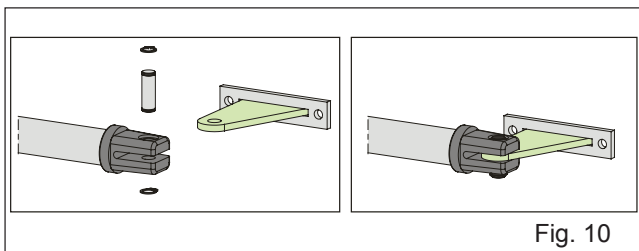

Fig. 10
7. Assemble the front bracket as shown in Fig. 10.